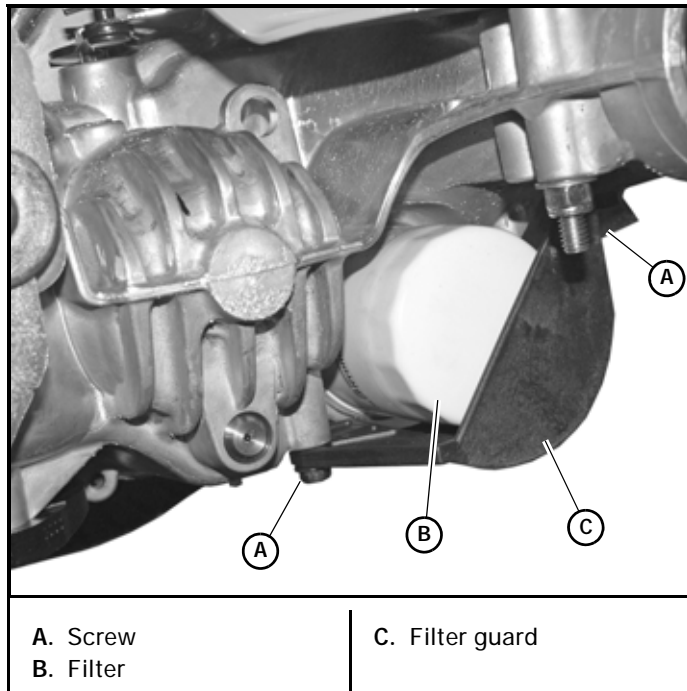

Figure 4-14
- Remove the three 1/4" filter guard screws and filter guard. Clean any loose debris from around the filter. Figure 4-14
- Re-install the filter guard with three 1/4" screws. Torque the screws to 65 in-lbs each. Figure 4-14